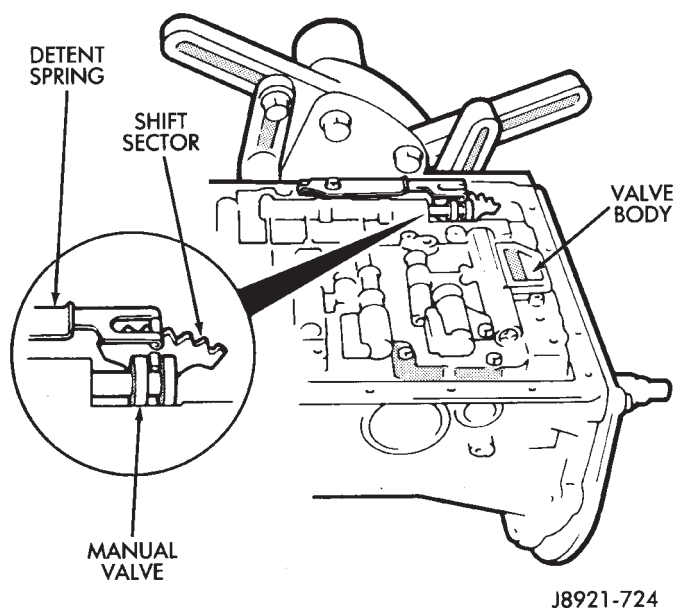

Fig. 59 Aligning Manual Valve, Shift Sector And Detent Spring
- (75) Position valve body on case (Fig. 59).
- (76) Install detent spring (Fig. 59).
- (77) Align manual valve, detent spring and shift sector (Fig. 59).